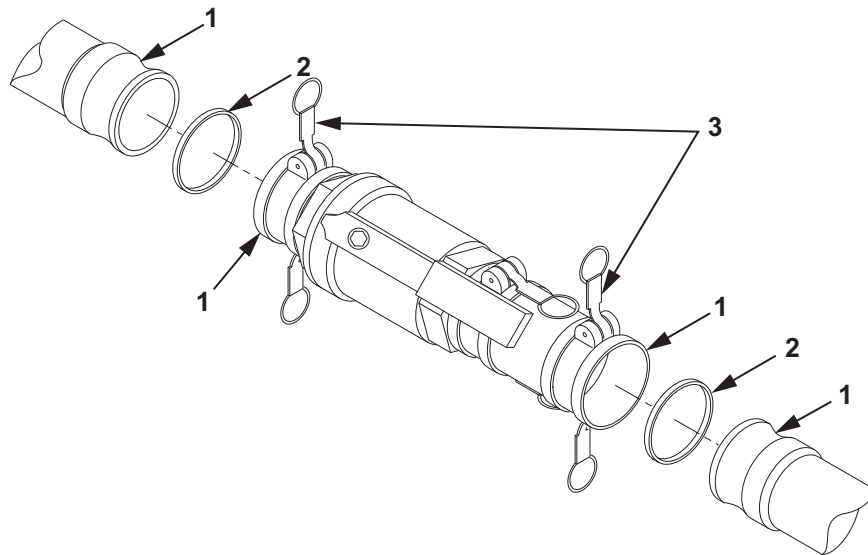

Figure 1. Camlock Connectors Gasket Removal.
1. Install gasket (Figure 1, Item 2) in coupling half (Figure 1, Item 1).
- a. Install new gasket (Figure 1, Item 2) on coupling half (Figure 1, Item 1).
- b. Insert male coupling half (Figure 1, Item 1) into female coupling half (Figure 1, Item 1).
- c. Push in on coupling half camlock levers (Figure 1, Item 3) to connect coupling halves (Figure 1, Item 1).
- d. Ensure coupling halves (Figure 1, Item 1) are securely connected.